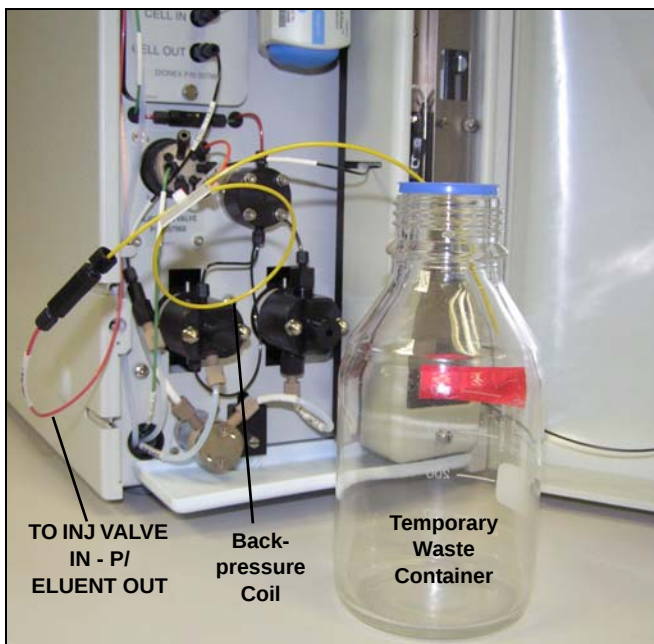

Figure B-83. Plumbing Connections for Conditioning the EluGen Cartridge with Carbonate Eluent
10. Disconnect the **TO INJ VALVE IN - P/ELUENT OUT** line from port **P (2)** on the injection valve.
11. Use a 10-32 to 10-32 coupler (P/N 042627) to connect the **TO INJ VALVE IN - P/ELUENT OUT** line to one end of the yellow 0.5 mL/min, 7 MPa (1000 psi) backpressure coil (P/N 053765) (see Figure B-83).